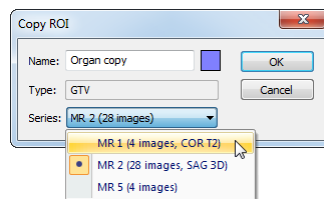

Figure 169 – Copy ROI dialog - selecting target series
5. Select a target series from the **Series** drop down menu, if desired (see Figure 169). It is possible to select only target series registered with the series of source ROI. The default target series is the series of the “source ROI”.